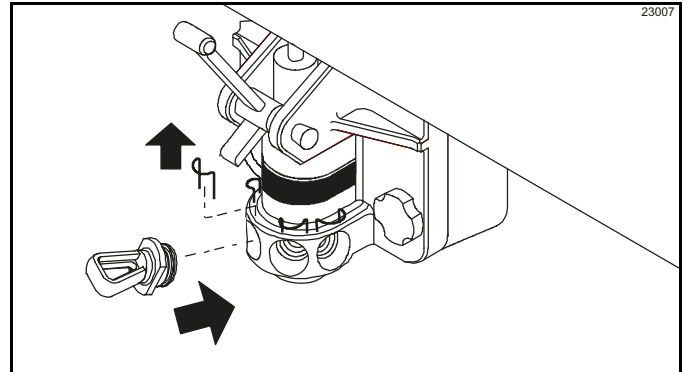

Figure 6-49
14. Install the syrup-hole plugs in the syrup ports in the freezer door. (See Figure 6-49.)